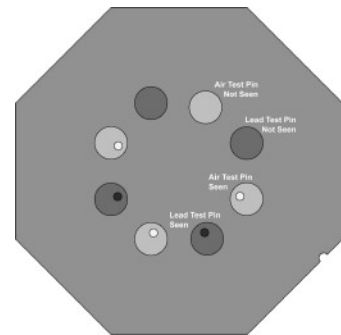

Figure 4. Working thickness range. Three examples of white clipping and two examples of black clipping
- **Low-contrast detectability:** Four sets of holes with diameters of 4 mm, 3 mm, 2 mm, and 1 mm are filled with elemental iodine dispersed in epoxy. The relative areal concentration of iodine in the four patterns is 20, 10, 5, 2.5 mg/cm2. The test operator is required to identify the smallest visible pair of targets in each pattern. See Figure 4.
- **Working thickness range:** The ability to image structures overlaid by bone or air. Systems with inadequate single-image latitude are unable to do this in bright (air) or dark (bone) portions of the image. The NEMA Cardiology Phantom contains eight cylinders composed of different heights of air, aluminum and plastic. These cylinders are calibrated for a total 20 cm phantom thickness. A 50 mm deep air challenge target overlaps the four air cylinders. The bright side dynamic range is determined by how many of these targets are seen. A 5 mm lead challenge target overlaps the four aluminum cylinders. The dark side dynamic range is determined by counting these targets. See Figure 4.